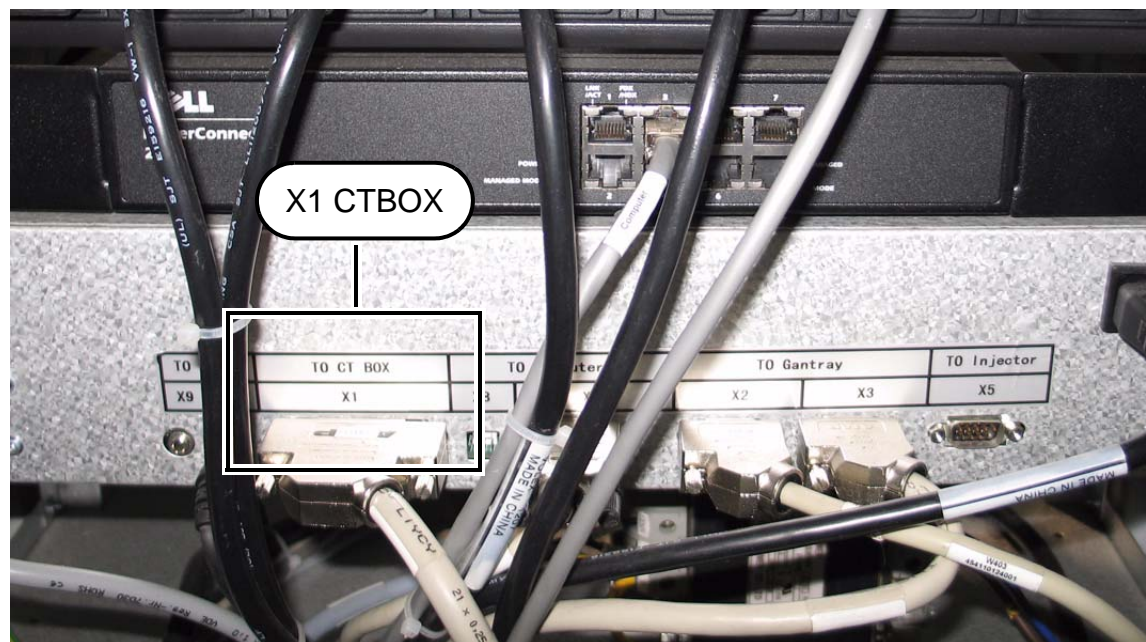

Figure 34: CTBOX Connector X1
2. Disconnect the old CTBOX cable from the X1 connector which is located at the Console Interface Board as shown in Figure 34 on page 42.